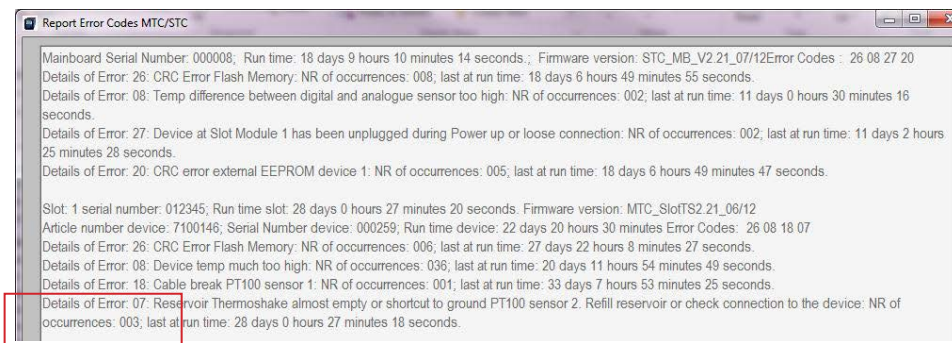

Fig.4: Example: Details of Error 07: no. of occurrences: 003, in case of an increase in 2nd report to 004 → refill is required
- Search in the displayed report for Details of Error: 07: **occurrences: 00X** → Fig. 4